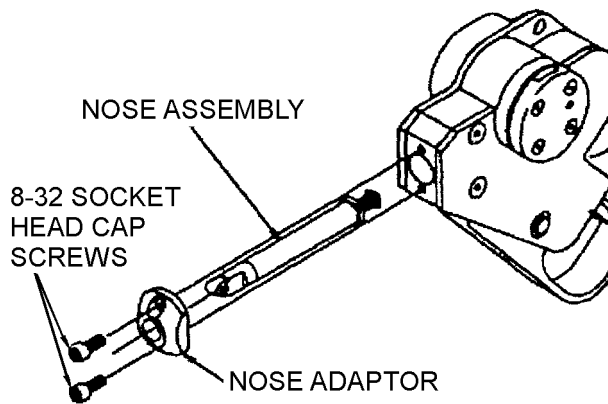

Figure 36. Removal of Safety Cable Tool Nose Assembly.
63. **SAFETY CABLE TOOL INDENTER ADJUSTMENT/CALIBRATION.** Remove the nose assembly by removing the two 8-32 socket head cap screws with a 9/64-inch hex wrench (Figure 36).